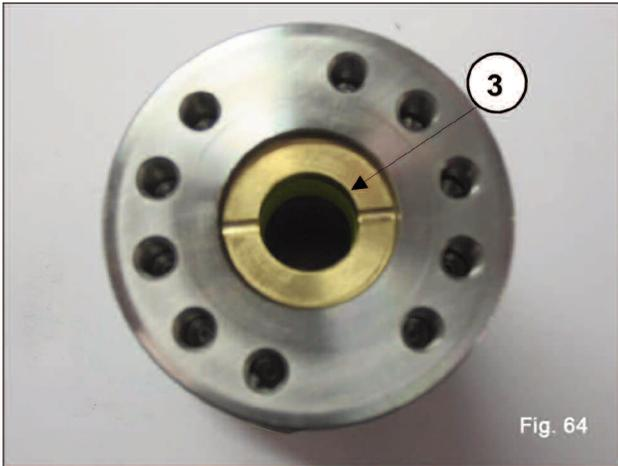
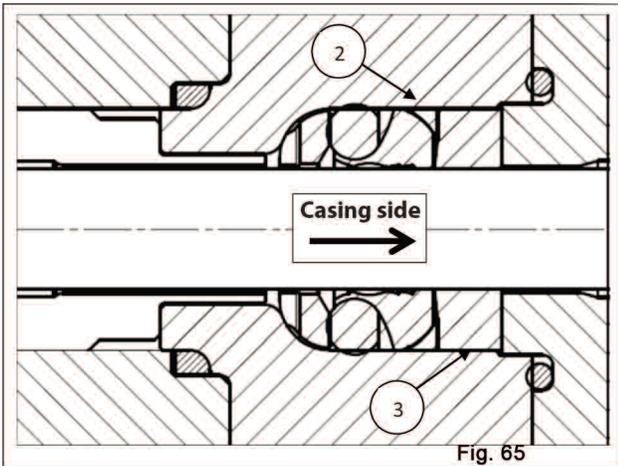

Fig. 64
Fig. 65
**!** The gasket bushing (3) must be introduced into the liner with the outlets facing outwards (casing side) as shown in fig. 64 and in fig. 65.